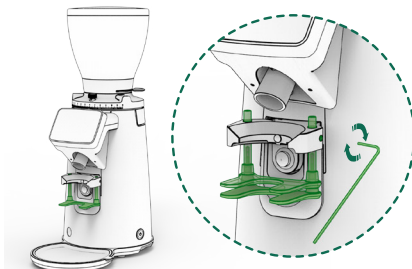

Fig. 5
1. Loosen the screw (15) on the lower support (9) by using the #3 Hex Allen key included with your grinder.
3. Tighten the screw (15) with the #3 Hex Allen key provided (Fig. 5).